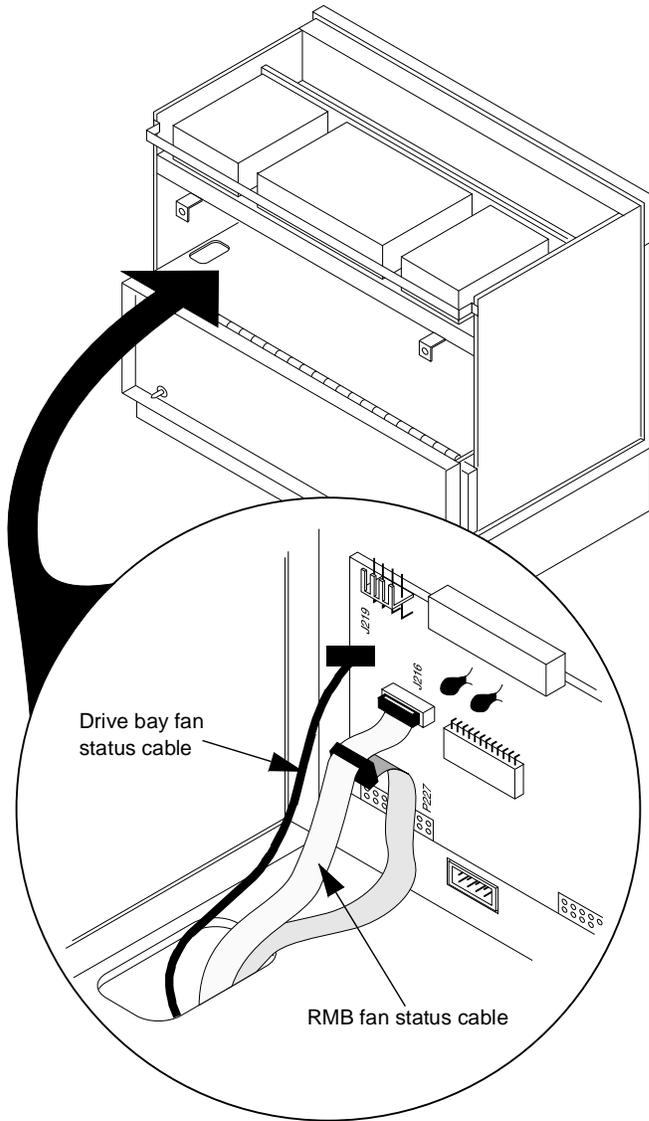

Figure 4-11. Fan Status Cabling
6. Open the power supply door and continue routing this cable up to the power distribution panel and connect it to the unused header (J210) at the top of the panel on the left side, as shown in Figure 4-11.
9. Assemble the RMB fan status cable to the power distribution panel as shown in Figure 4-11. Disconnect the cable (P216) from position J216; plug the RMB fan status cable into the vacated position. Connect the removed cable connector to the mating connector on the RMB fan status cable.